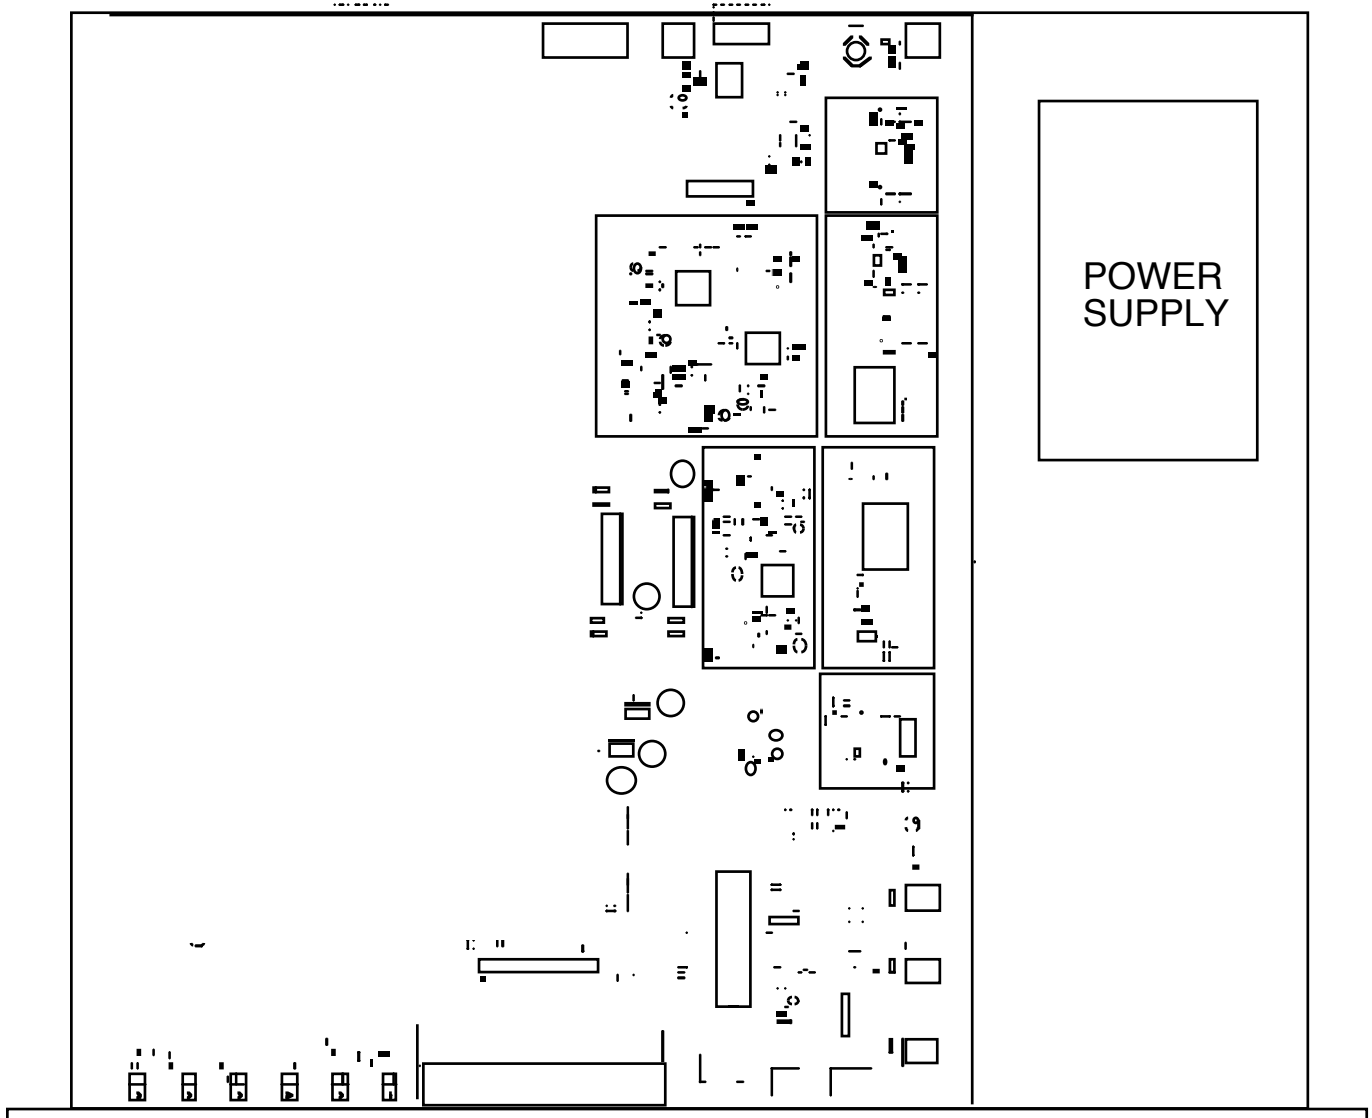

FIGURE 2.1 2083-1617 Mechanical Assembly
2.1 Mechanical - The 2083-1617 consists of one RF/Controller PCB housed in a 1 RU (1 3/4 inch high) by 16 inch deep chassis. A switching, ± 12 , +24, +5 VDC power supply provides power for the assemblies. The 2083-1617 can be secured to a rack using the 4 holes on the front panel. Figure 2.1 shows how the 2083-1617 is assembled.